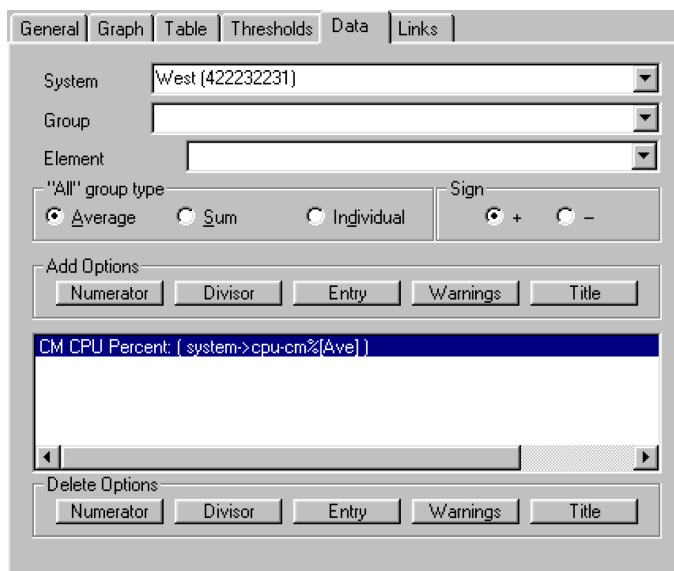

Figure 7.29 *Template Properties dialog box: Data tab*
The computation of each data entry is displayed in the large text box in the lower half of the **Data** tab (see Figure 7.29). Use the UP ARROW and DOWN ARROW keys or click on an entry to select the data entry you wish to modify.
- 4 Click **Entry** in the **Add Options** dialog box. The new data entry is placed at the end of the list of computations in the large text box in the **Data** tab (see Figure 7.29).